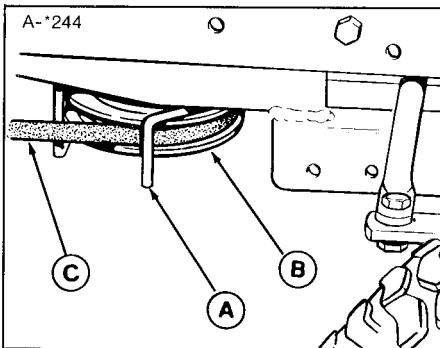
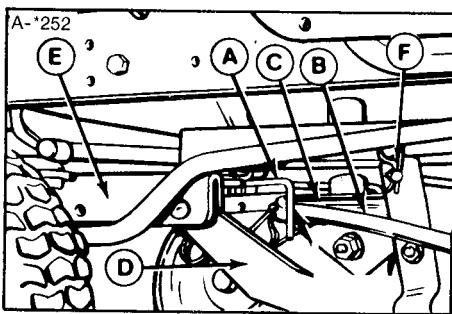
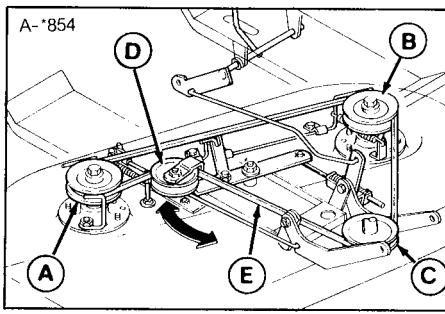

Figure 5. Right-Hand Belt Stop
Figure 4. Left-Hand Belt Stop
Figure 6. Mower Belt Pattern - 36"
- Slip the mower drive belt onto the PTO pulley (C, figure 4). Loosen belt stops as necessary. The left-hand belt stop (A) is shown in figure 4. The right-hand belt stop is shown in figure 5. Check routing of belt by referring to figure 6.